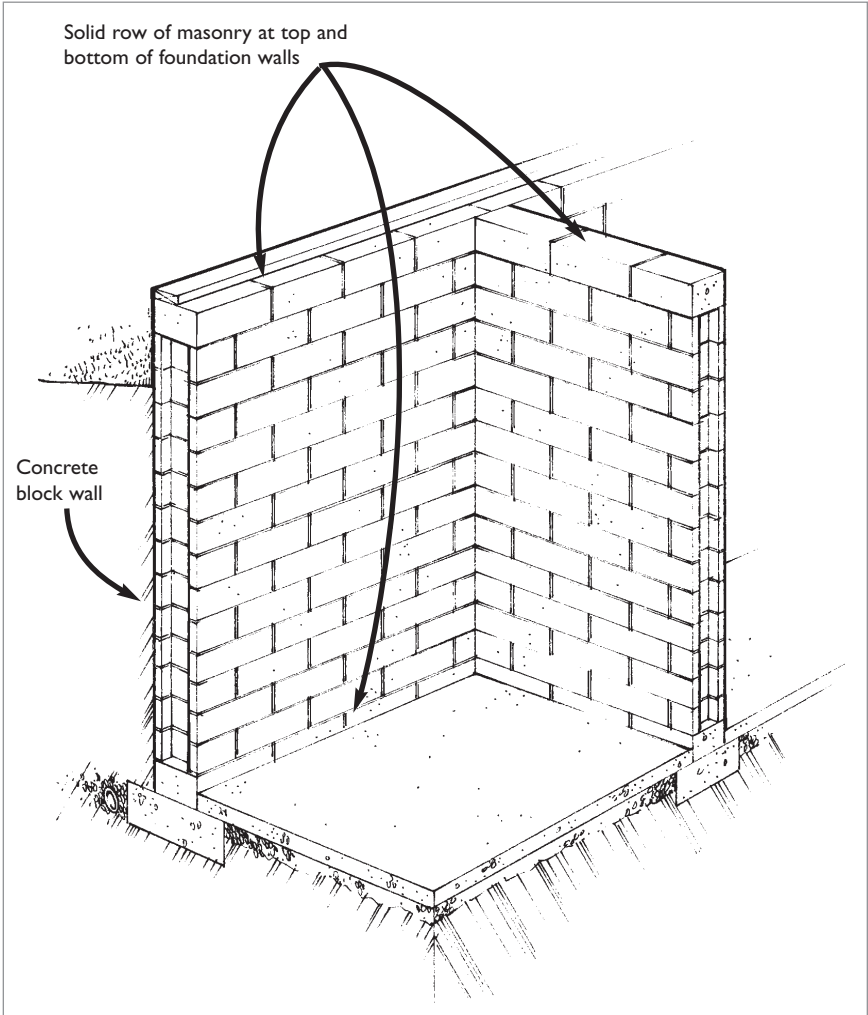

Figure 19: Eliminating voids at the top and bottom of new concrete block foundation walls
- Use a solid course of masonry units at the top and bottom of concrete block foundation walls (*see figure 19*). If regular concrete blocks with voids are used instead, a major entry route for radon may be created.